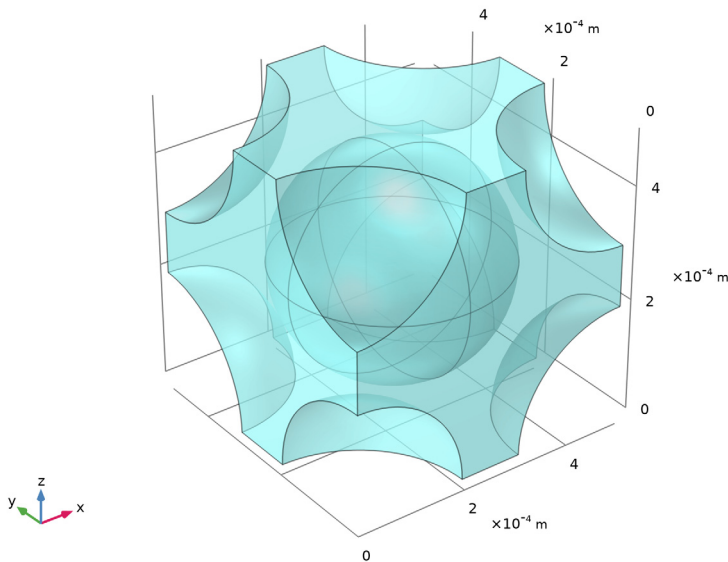

Figure 1: Geometry of the unit cell of a sphere packing.
- 6 Click  **Build All Objects**. Compare the geometry with Figure 1.